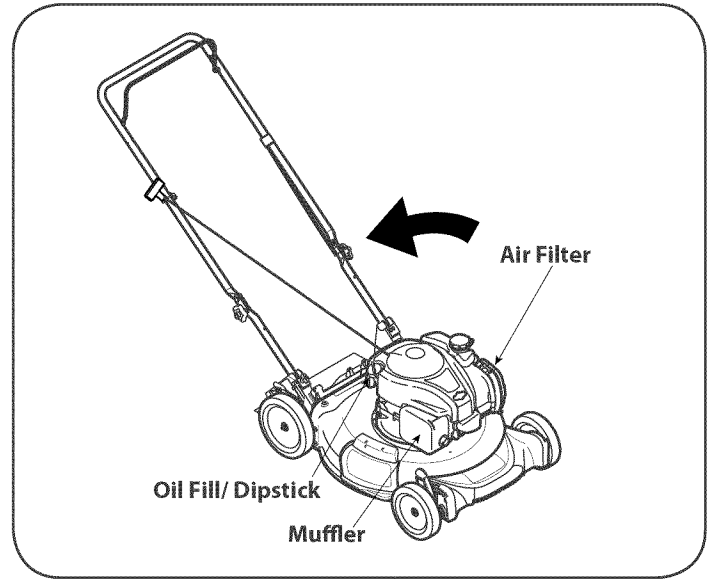

Figure 14
3. Remove the oil fill dipstick and drain the oil into the container by tipping the engine toward the oil filler neck. See Figure 14.
2. Tip mower so that it rests on the housing, keeping the muffler side down. Refer back to Figure 14. Hold mower firmly.